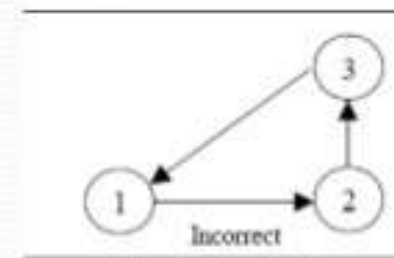

Figure 8.7: Looping Error
b. Looping error should not be formed in a network, as it represents performance of activities repeatedly in a cyclic manner, as shown below in Figure 8.7.